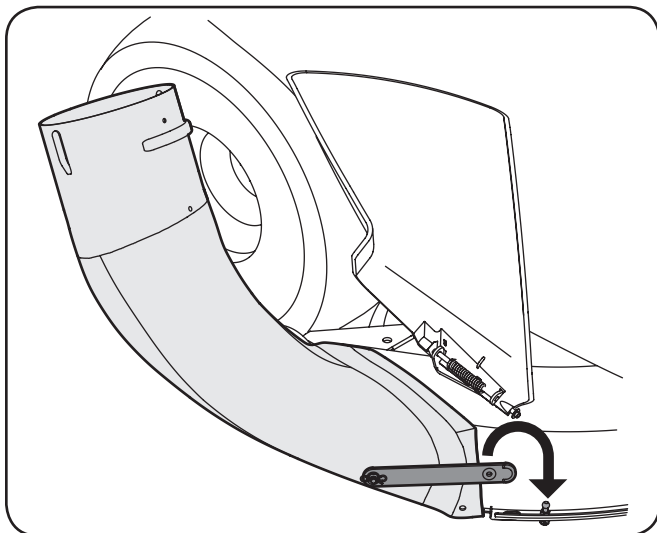

Figure 4-22
12. Secure the chute elbow to the tractor's deck by hooking the chute strap onto the ball pin installed earlier on the deck. See Figure 4-22.